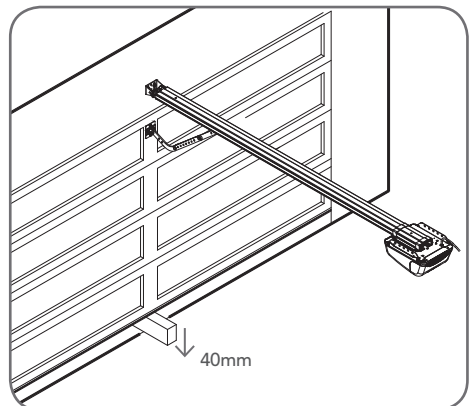

Fig. 7.2
- Place a piece of timber approximately 40mm high on the floor directly under the door (Fig 7.2).